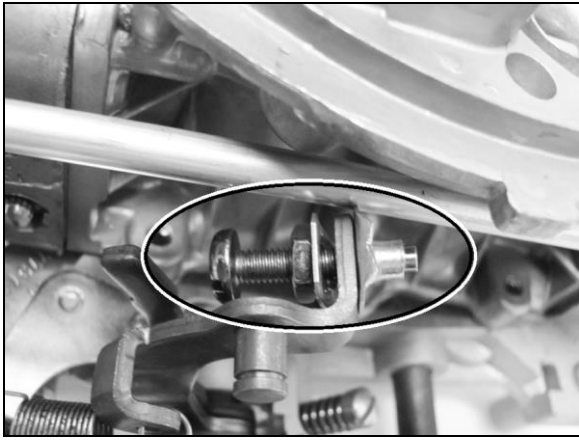

Figure 2
2. Install the transmission adjusting screw, lock nut, and retainer. See Figure 2.
3. Fasten the spring perch from the unassembled parts using the Phillips Head Screw in the unassembled parts as shown in Figures 2 and 3. Make certain that the locating pin on the perch is in the hole of the throttle body.